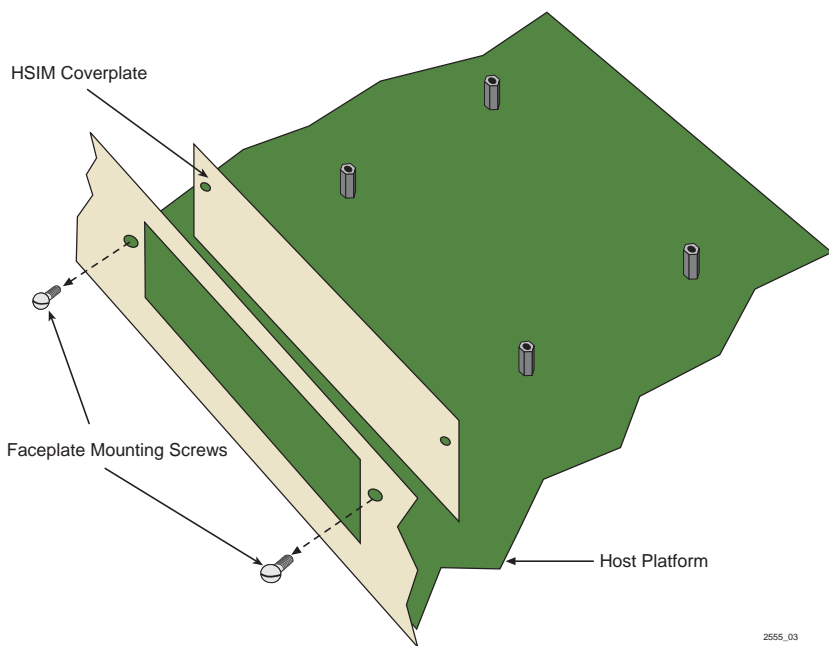

Figure 2-1 Removing the HSIM Coverplate
5. Remove and save the two faceplate mounting screws securing the HSIM coverplate and remove the coverplate. See Figure 2-1.
5. Refer back to Figure 2-1 and remove the two faceplate mounting screws and the HSIM coverplate. Save the screws.